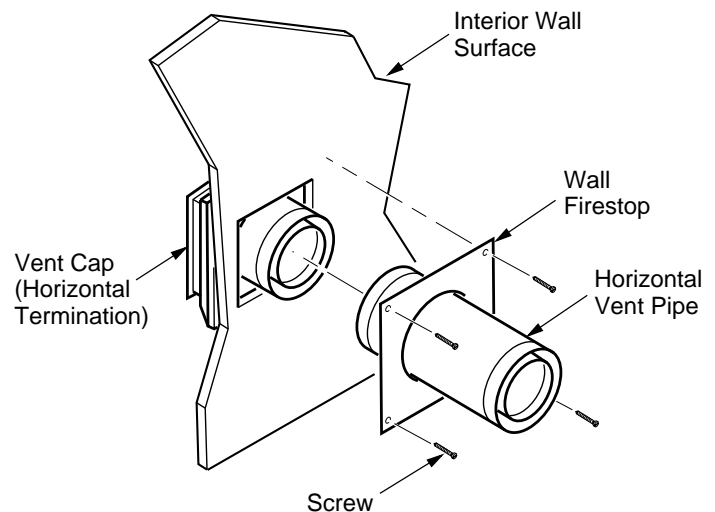

Figure 12 - Connecting Vent Cap with Horizontal Vent Pipe
- Slide the wall firestop over the vent pipe before connecting horizontal run to vent cap (see Figure 12).